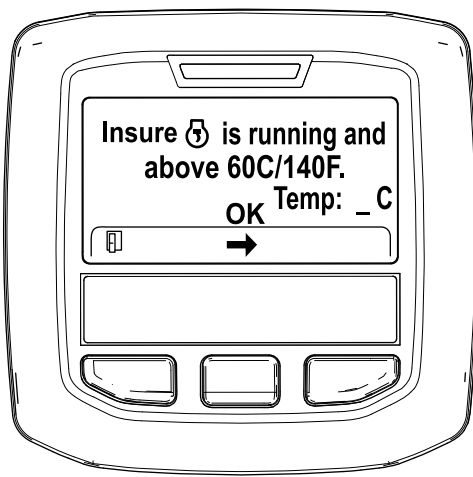

Figure 36
5. If the coolant temperature is below 60°C (140°F) the "Insure  is running and above 60C/140F" message displays. (Figure 36).